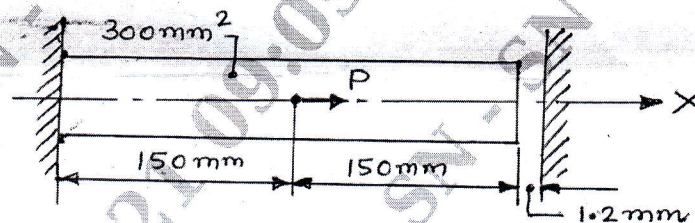

Fig. Q4 (a)
- 4 a. A bar is having uniform cross-sectional area of  $300 \text{ mm}^2$  and is subjected to a load  $P = 600 \text{ KN}$  as shown in Fig. Q4 (a).